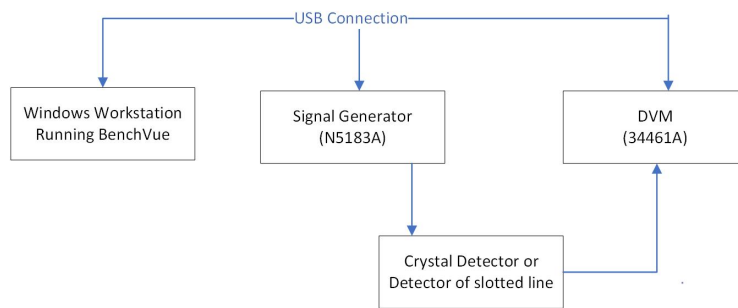

Figure 5: Block diagram of automated measurement setup
3. The next part of this lab is to automate the process you just went through. Figure 5 illustrates the equipment set up. They will communicate with each other via USB connection.